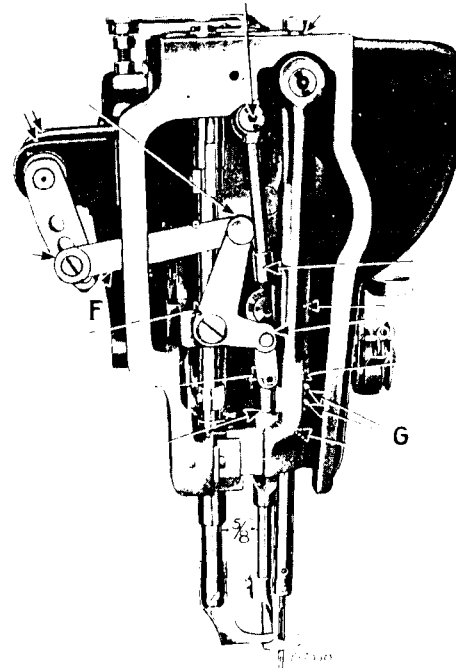

Fig. 4. End View of Machine Showing Oiling Points
In case the needle bar is not correctly set, loosen the needle bar connecting stud pinch screws at (G, Fig. 4) and place the needle bar in correct position as directed above, then retighten the screws (G).
The distance between the vibrating presser bar and lifting presser bar, after adjusting the feed mechanism so that there is no feed movement of the needle bar, should be $\frac{3}{8}$ inch as shown in Fig. 4.